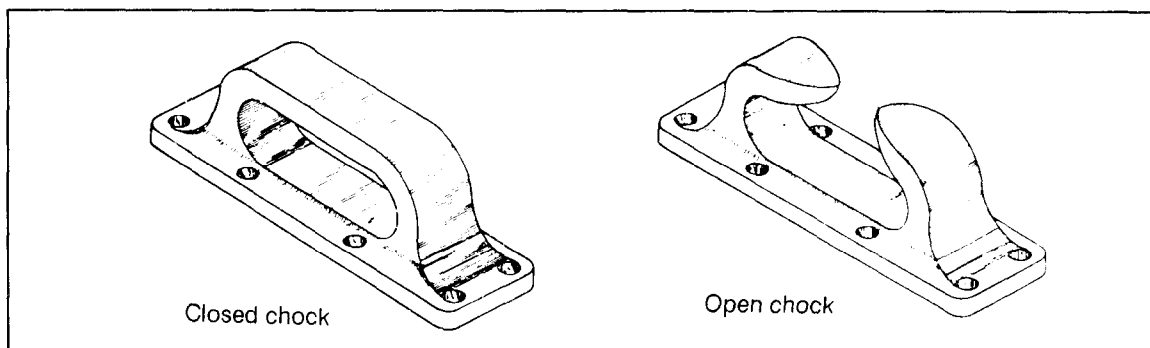

Figure 9-4. Chocks
d. Chocks (Figure 9-4). Chocks are usually timber braces. However, open or closed chocks are made of cast iron. They direct lines and snub lines when working a ship into or out of a berth. A closed chock may be used for a change in the vertical, as well as the horizontal, direction of the line.